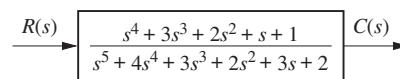

FIGURE P2.2
11. Write the differential equation that is mathematically equivalent to the block diagram shown in Figure P2.2. Assume that  $r(t) = 3t^3$ . [Section: 2.3]